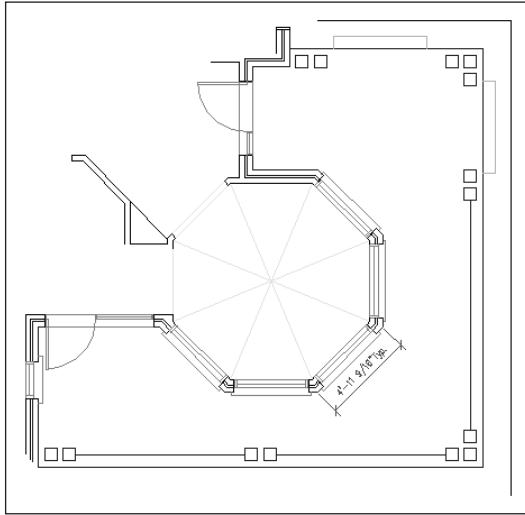

Figure 14-13: The house plan with an aligned dimension
4. Save your drawing. It should look like Figure 14-13.